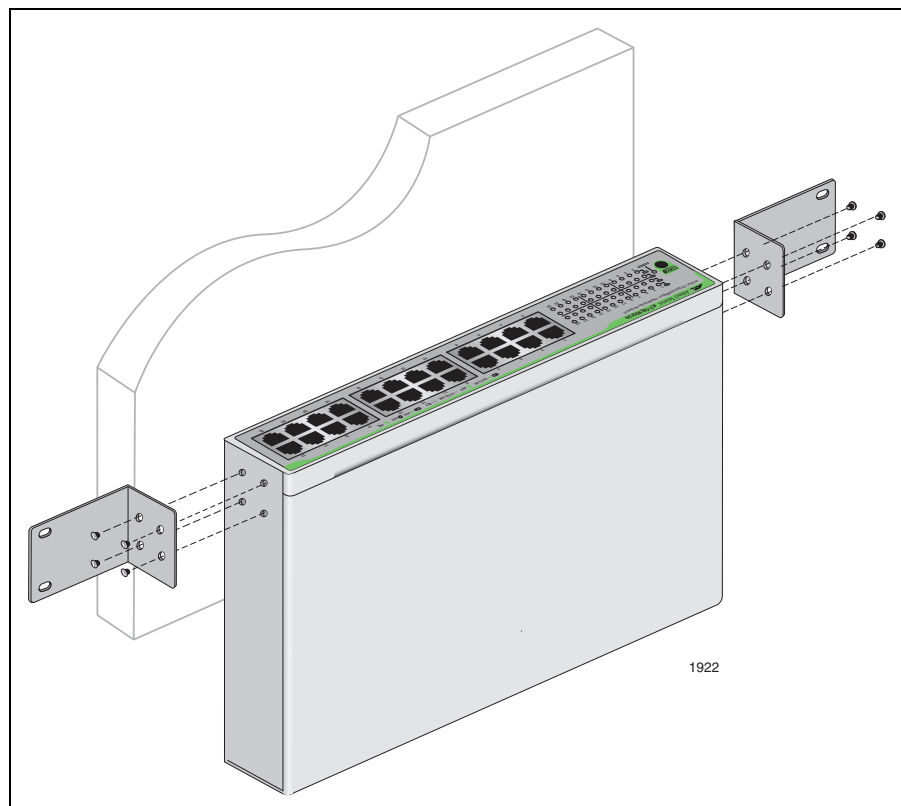

Figure 7. Attaching the brackets to the sides of the switch
2. Attach the two mounting brackets (provided) to the sides of the switch using the eight flathead Phillips screws (provided), as illustrated in Figure 7.